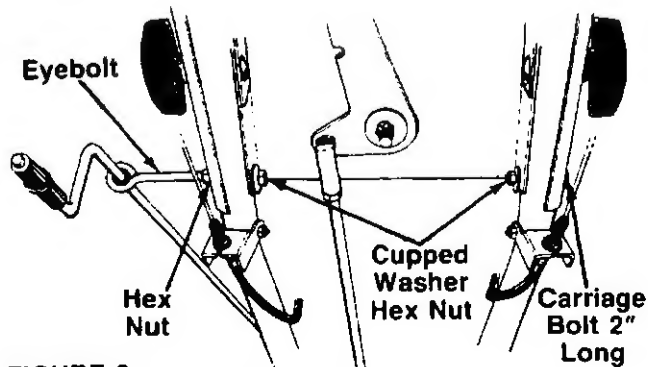

FIGURE 3.
1. Secure the right hand side of upper and lower handles and handle panel with 2" long carriage bolt, 5/16" cupped washer and hex nut. See figure 3. Install the carriage bolt into the lower hole with the head of the carriage bolt to the outside. Cupped side of washer goes against the handle panel. Tighten securely.